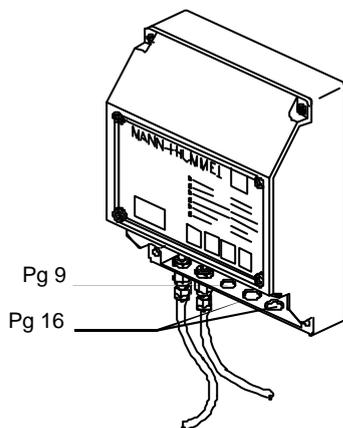

Fig. 6.4.-1
- a) One connection hose is unassigned (see fig. 6.4.-1):